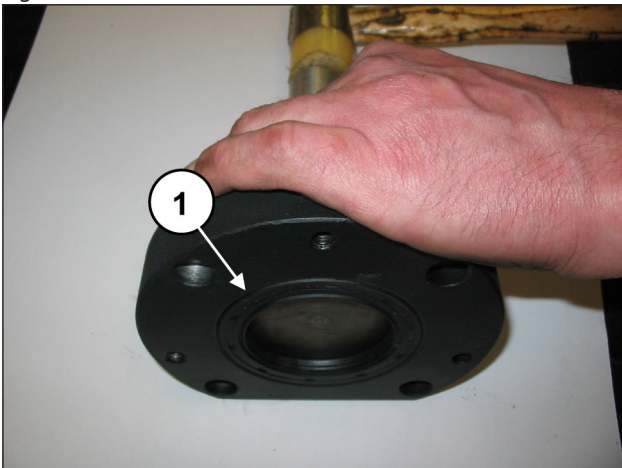
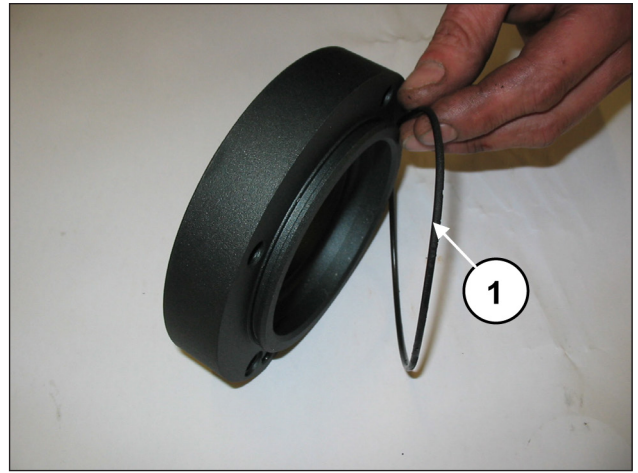
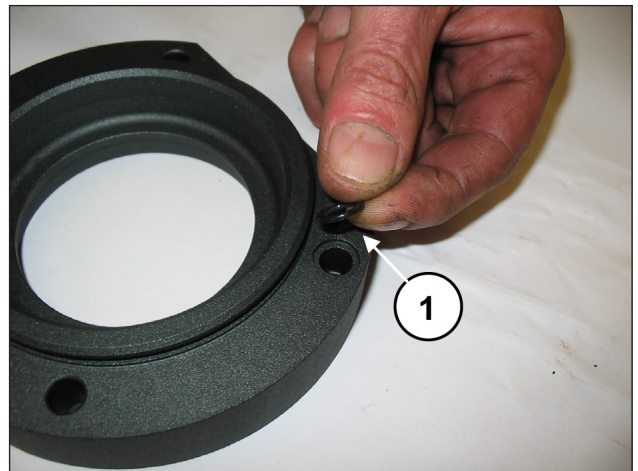

Fig. 28
Fig. 29
Fig. 30
Take out the radial seal ring (pos. ①, Fig. 28), the outside O-ring (pos. ①, Fig. 29) and the lubrication hole O-ring (pos. ①, Fig. 30).